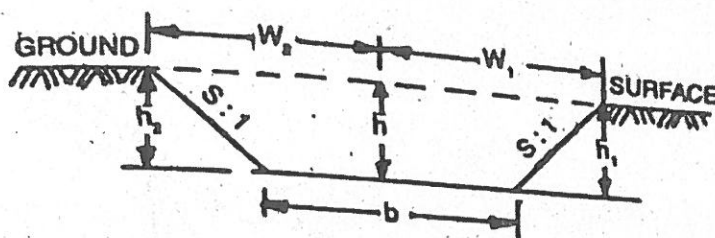

Fig. 12.2
1. **Level-Section.** (Fig. 12.2). In this case the ground is level transversely.